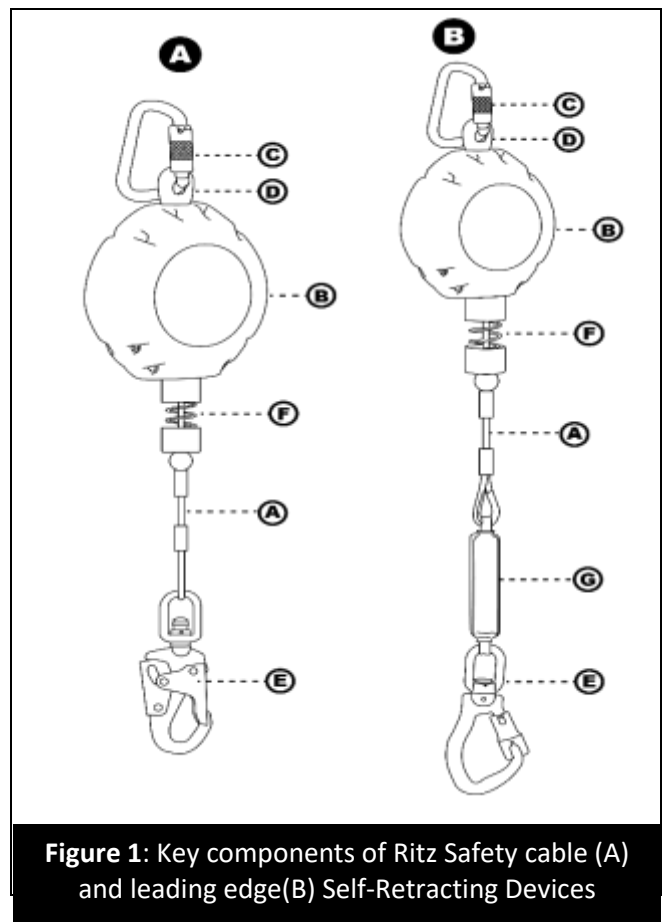

Figure 1: Key components of Ritz Safety cable (A) and leading edge(B) Self-Retracting Devices
3.1 KEY COMPONENTS: Refer to Figure 1 for identification of key components of RITZ SAFETY Self-Retracting Devices. RITZ SAFETY SRD's are drum wound Webbing or Cable Lifelines (A) that retract into a Nylon Housing (B). The Swivel Eye (D) on top of the SRD allows units to hang from anchorage by an attached Carabiner (C). The SRD is attached to the Fall Arrest connection on a Full Body Harness via a self-locking snap hook (E) on the end of the Lifeline. The Wire rope and Ferrules, which secure the snap hook, are protected from abrasion and corrosion by a Bumper (F).